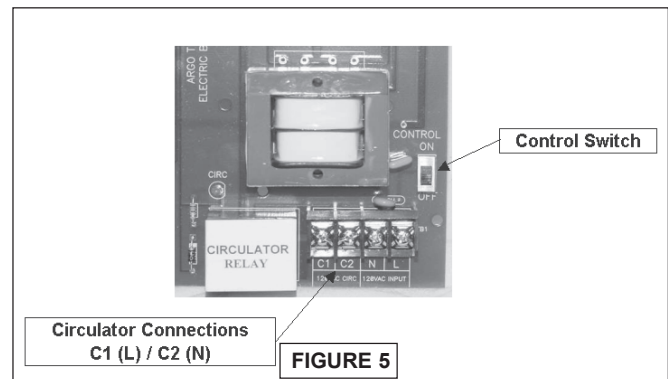

FIGURE 5
3. CIRCULATOR POWER SUPPLY: Terminals identified as C1(L) and C2(N) at the bottom of the control panel (Figure 5) may be used to supply one circulator pump power. The circulator motor shall not be larger than 1/6 horsepower with a maximum 5.0 amp rating. Wiring from the control panel to the pump should have insulation rated at 75°C. Circuit protection is provided by a 15 amp breaker or fuse (depending on option) on the control board.